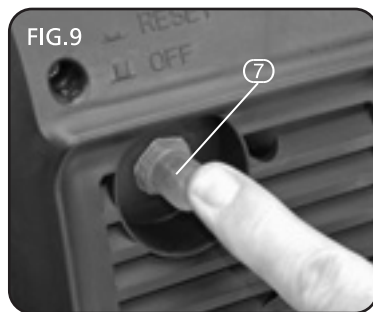

FIG.9
9.5 SAFETY SWITCH TRIPPING - FIG.9
2. Reset the trip ⑦ (Fig.9).